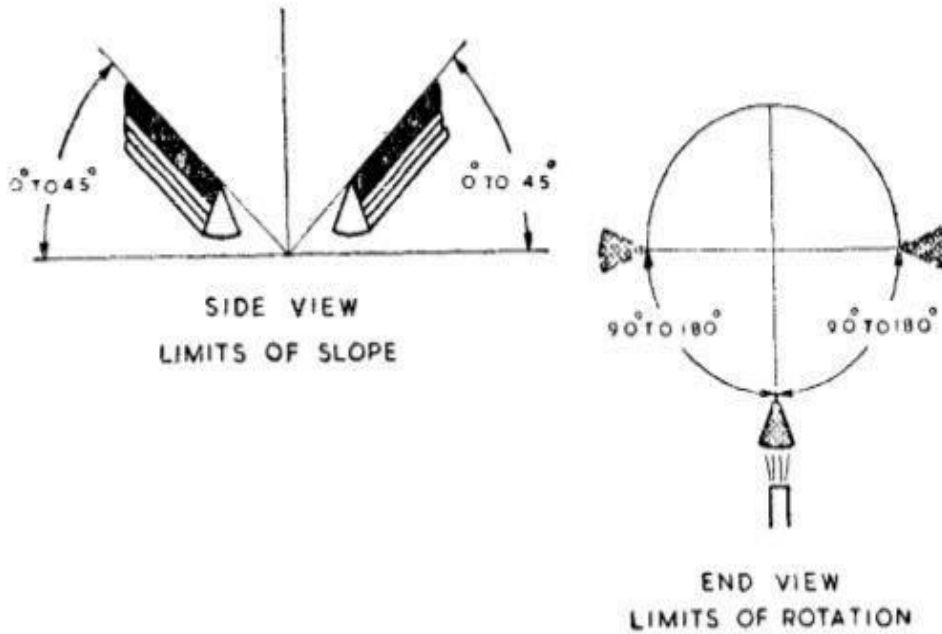

FIG. 17 OVERHEAD POSITION
d) *Overhead Position* — A position in which the weld slope does not exceed  $45^\circ$  and the weld rotation is greater than  $90^\circ$  ( Fig. 17 ).